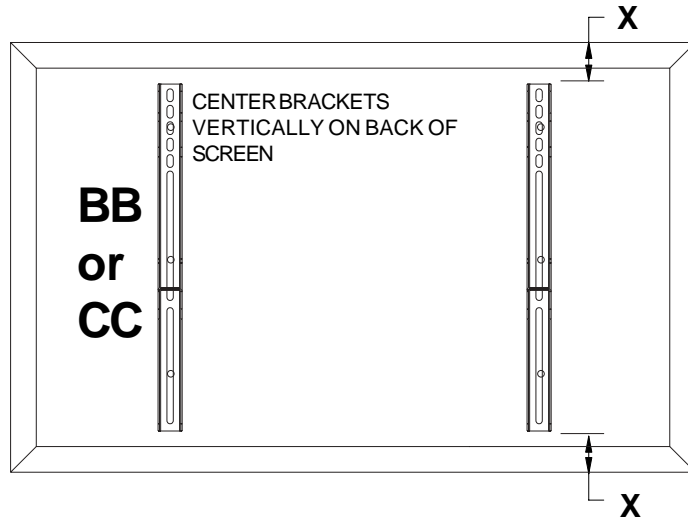

fig 2.1
- 2** To prevent scratching the screen, set a cloth on a flat, level surface that will support the weight of the screen. Place screen face side down. If screen has knobs on the back, remove them to allow the adapter brackets to be attached. Place adapter brackets (**BB or CC**) on back of screen, align to holes, and center on back of screen as shown in figure 2.1. Attach the adapter brackets to the back of the screen using the appropriate combination of screws, multi-washers, and spacers as shown in figure 2.3 or 2.4.